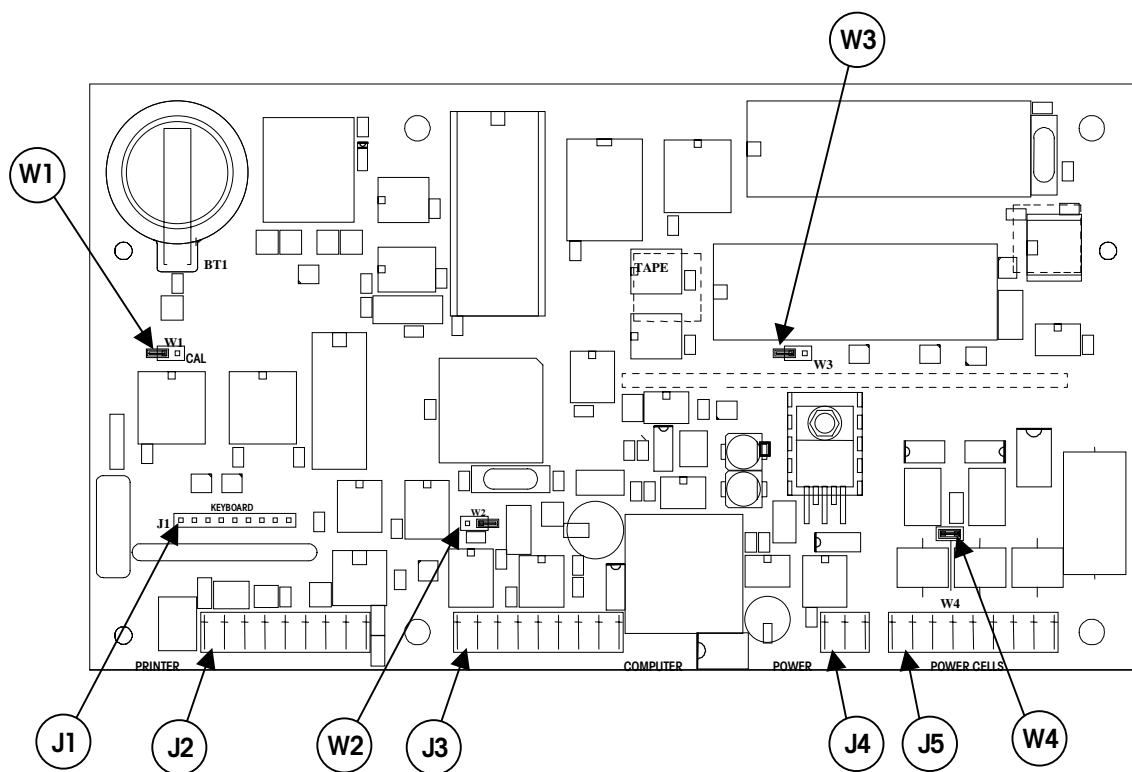

Figure 2-3: Cougar Main Logic PCB
Refer to Figure 2-3 for the locations of the jumpers and connectors on the terminal's PCB. For normal operation, jumpers W1, W2, and W3 should be OUT (not shorted). The default setting for jumper W4 is IN (shorted).
- Place the W1 jumper (marked CAL) to the IN position (shorting the two pins together) on the PCB. See Figure 2-3 for the jumper location.